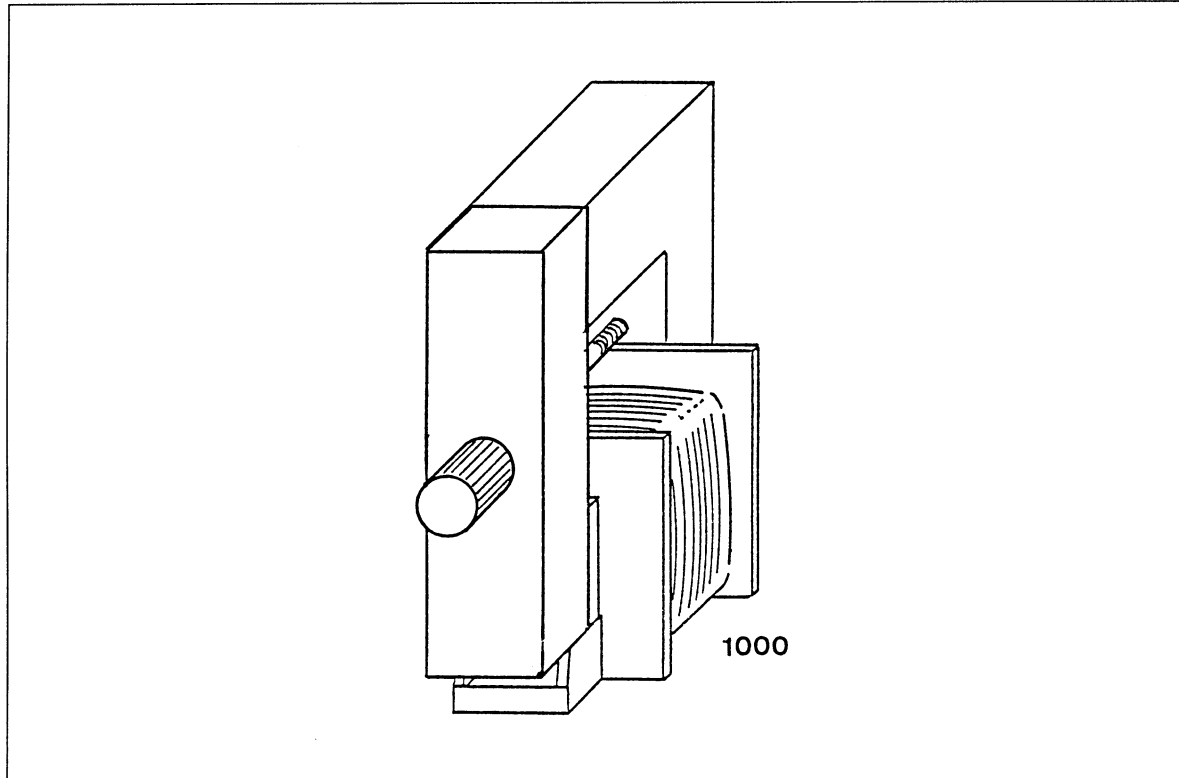

Fig. 2 Supplement to Fig. 1: attaching the U-core with the yoke (I-core)
2. Attach the U-core as shown in Fig. 2. Screw the I-core (yoke) securely to the U-coil (with the bare side inward).